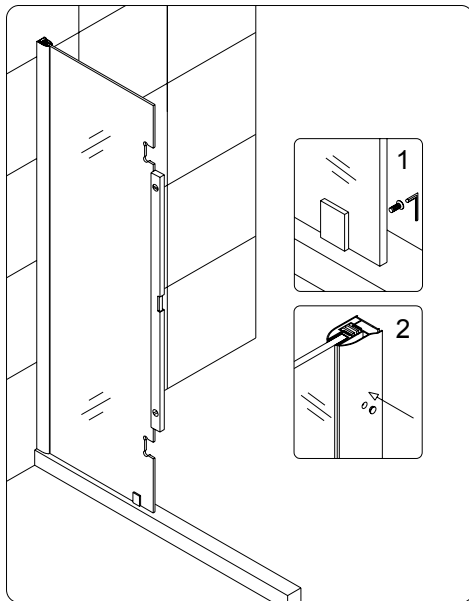

Fig 3
3. Fasten the **Stationary glass panel (02)** in the wall profile. Assemble the **Bottom bracket (14)**, cover it with **Decorative plug (08)**. See Fig.3 for details.